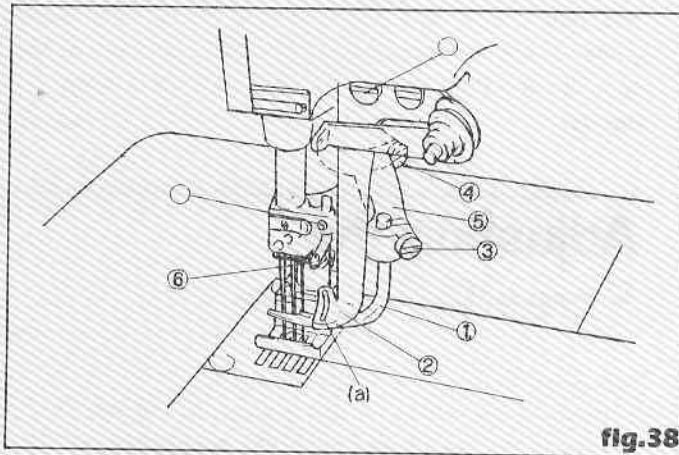

fig.38
To adjust, loosen the screws (3) (4), and move the spreader (1) back or forth, while turning the spreader lever (5). After finishing the setting, tighten the screw (4). (fig 38)